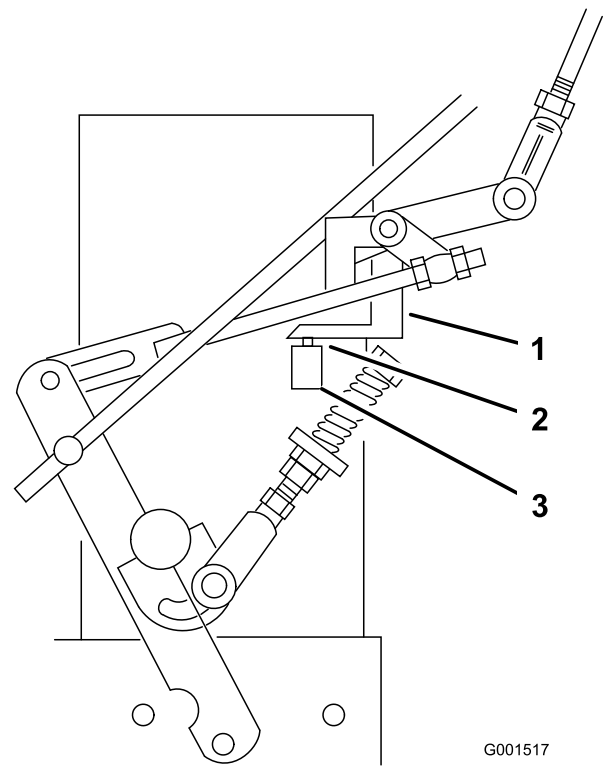

Figure 30
7. Ensure that the safety switch is pressed and there is a 8 mm (5/16 inch) space between the actuating tab and switch (Figure 30).
8. If needed, adjust the switch location to create the 8 mm (5/16 inch) space (Figure 30).